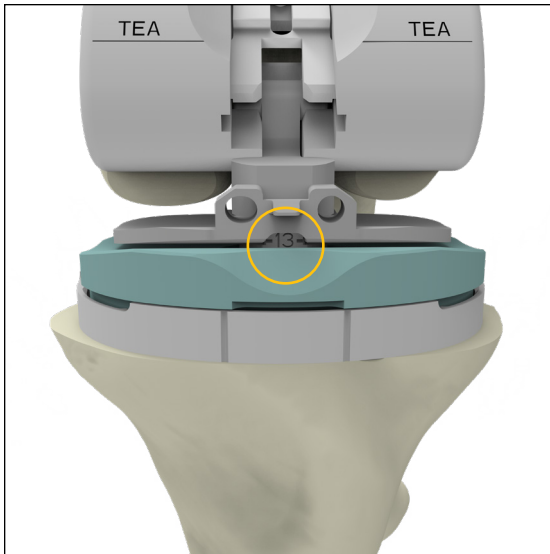

Figure 98
- Assess the joint line. Adjust the insert thickness as required by reattaching the Insertion Removal Handle, or surgical forceps, to the Hinge Trial Bearing Plate and shifting the plate to the next increment. The thickness of the insert can be viewed through the window in the Hinge Trial Bearing Plate (Figure 98).